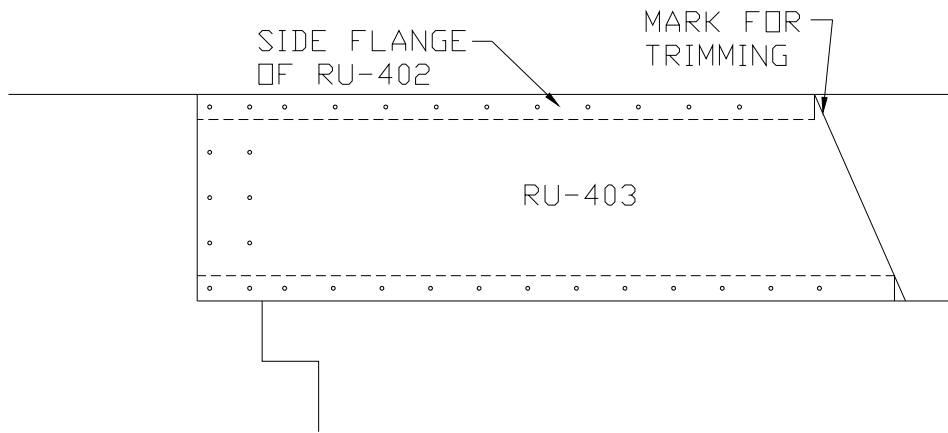

Figure 5.3.4
- 6) Remove the Skin. Cleco it back in place overlapping the Rudder Skin this time. Drill #40 holes through the rivet line behind the Spar using the tip Skin (RU-403) as a drill guide. Mark the Skin for trimming and remove and trim. **NOTE:** Trim the skin flush with the end of the side flanges on EL-402 and RU-402, not the end of the Ribs. Figure 5.3.4.